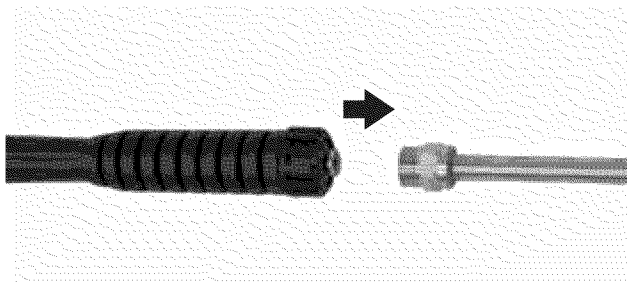

Figure 39 – Nozzle Extension Removal
6. Remove the nozzle extension from the spray gun (see Figure 39).